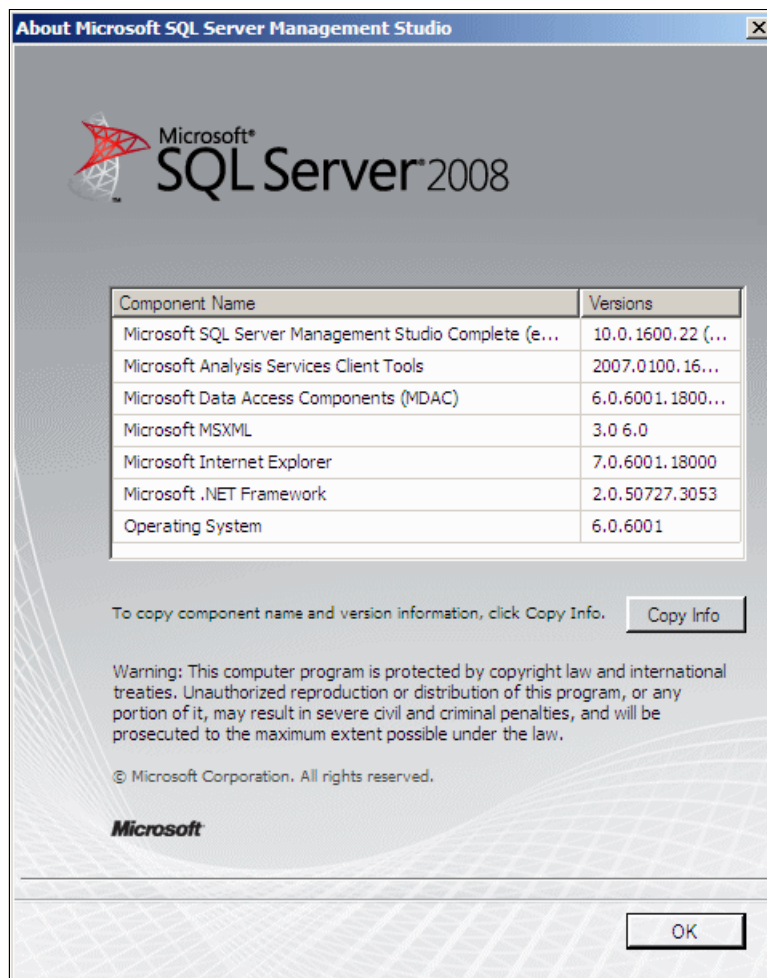

Figure 6-36 SQL Server 2008 version
2. Click **Help** → **About** on the SQL Server 2008 Management Console to confirm the version of SQL Server 2008 is installed. The version installed during the Redbooks publication exercise is shown in Figure 6-36.